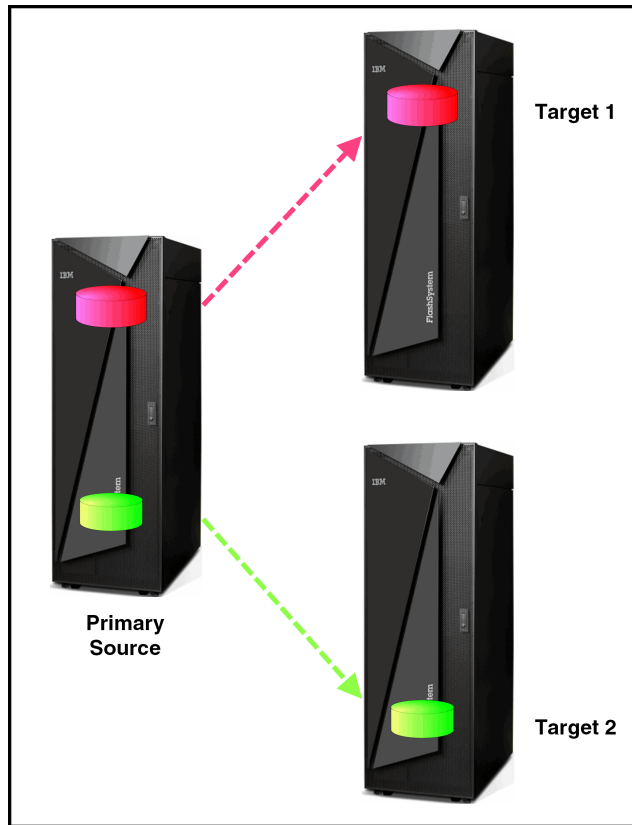

Figure 3-4 Fan-out remote mirror configuration
A single local (production) FlashSystem A9000, A9000R, or XIV Gen3 can be connected to two remote (DR) FlashSystem A9000, A9000R, or XIV Gen3 systems in a fan-out configuration, as shown in Figure 3-4. Both remote systems can be at the same location, or each of the targets can be at a different location. FlashSystem A9000, A9000R, and XIV Gen3 support both synchronous and asynchronous mirroring (for different mirror couplings) on the same system.